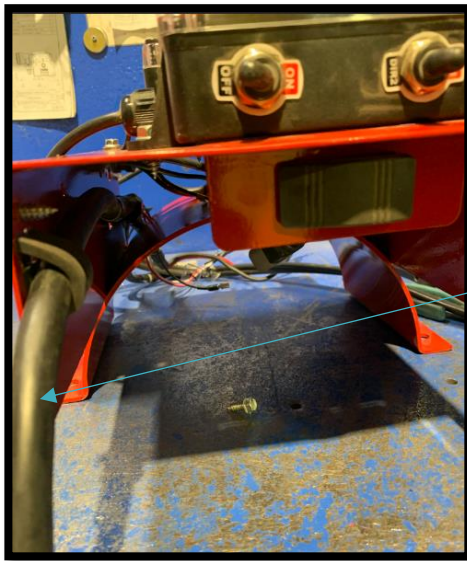

Figure 20
- f. Route PART #203536 (HARNESS, BOOT TO SWING) to inside receiver tube mount as shown in Figure 20, fasten on back of receiver mount with cable clamp (20268) as shown in Figure 21.